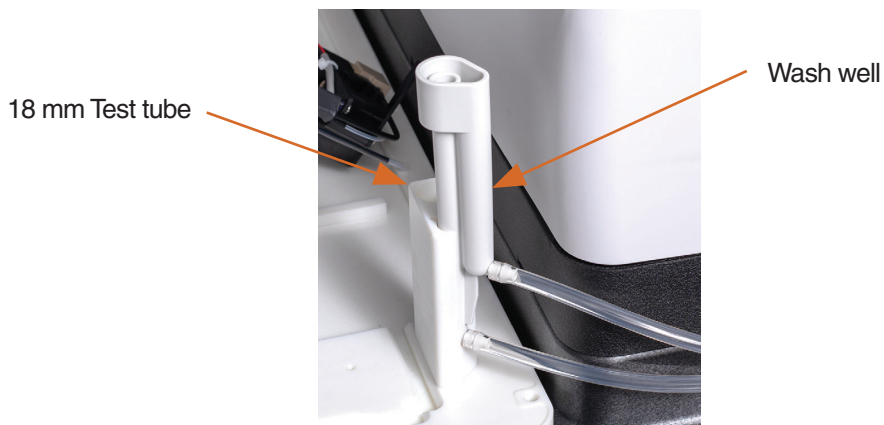

Figure 2-27 Location of the test tube and the wash well on the AutoSampler
4. Install the included 18 mm test tube in the receptacle at the right rear corner of the AutoSampler platform just to the left of the wash well (Figure 2-27). Fluid in this tube will be used for bracketed solvent injections. In this technique, the injected sample is separated from the chromatographic solvents by a small amount of air and a “bracket” solvent during the sample loading and injection process.